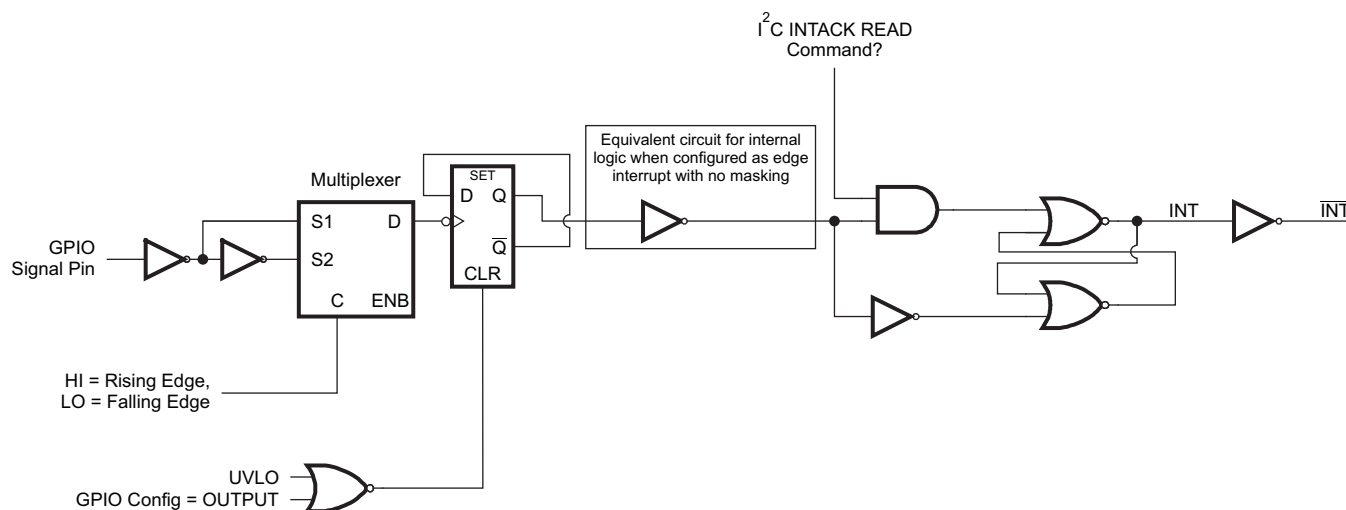

Figure 58. GPIO 1 or GPIO2 Configured as an Interrupt Request Input
See Figure 58 for a description of the logic used for GPIO1 and GPIO2 inputs when configured for edge-triggered interrupt generation. The signal from the GPIO pin input is double-latched before being sent to the interrupt controller logic. The inversion of the Q output from the first flip-flop must be HI to allow the output latch to be cleared when a READ command occurs. On the initial edge of the GPIO signal, the Q output of the flip-flop is set (HI). The  $\overline{\text{INT}}$  line is asserted (LO) after the initial selected edge from the GPIO pin. On the next falling (or rising) edge of the GPIO pin, the interrupt can again be cleared (which allows the  $\overline{\text{INT}}$  pin to go back high). The  $\overline{\text{INT}}$  signal is cleared (set back HI) after an I2C READ operation is performed.